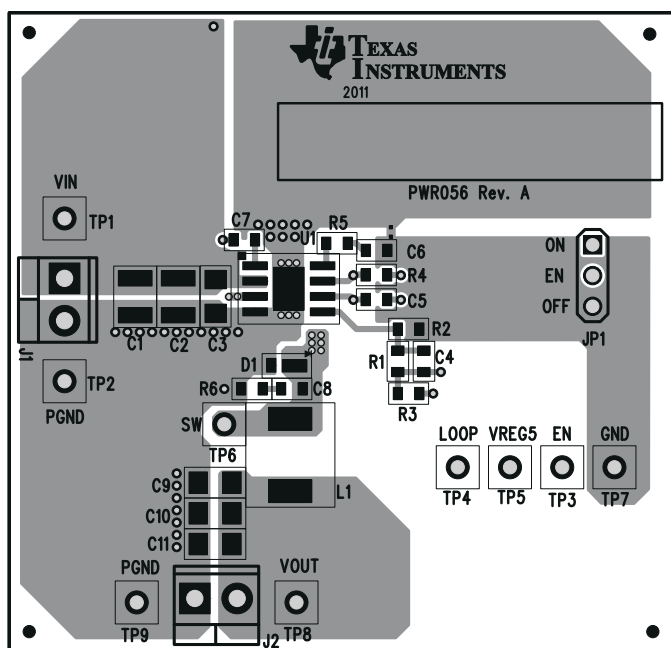
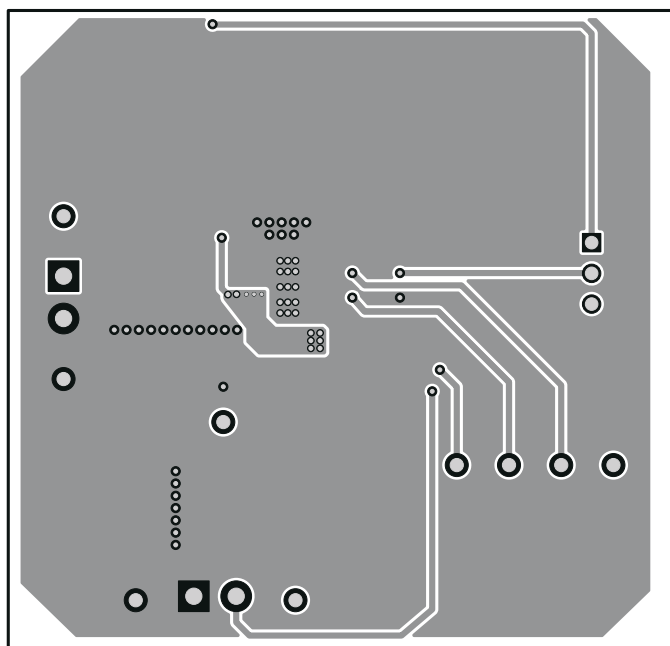

Figure 5-1. Top Assembly
Figure 5-5. Bottom Layer
The board layout for the TPS54329EVM-056 is shown in Figure 5-1 through Figure 5-5. The top layer contains the main power traces for VIN, VO, and ground. Also on the top layer are connections for the pins of the TPS54329 and a large area filled with ground. Many of the signal traces also are located on the top side. The input decoupling capacitors are located as close to the IC as possible. The input and output connectors, test points, and all of the components are located on the top side. An analog ground (GND) area is provided on the top side. Analog ground (GND) and power ground (PGND) are connected at a single point on the top layer near C6. The two internal layers are completely dedicated to power ground planes. The bottom layer is primarily power ground. A copper pour area on the bottom layer is used to connect the switching node (SW) to the output inductor and the boost capacitor. Traces also connect enable control jumper, EN, VREG5, and LOOP test points, and the feedback trace from VOUT to the voltage setpoint divider network.